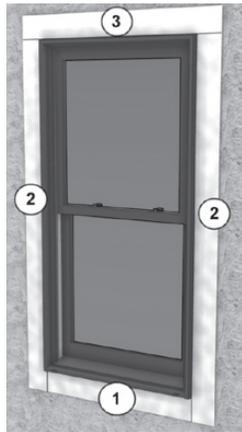

Figure 7
- (Recommended)** Following the flashing manufacturers' recommendations, apply flashing to the nail fins and surrounding wall surface starting with the bottom, then the sides, and finally the top, creating a shingle effect (**Figure 7**).